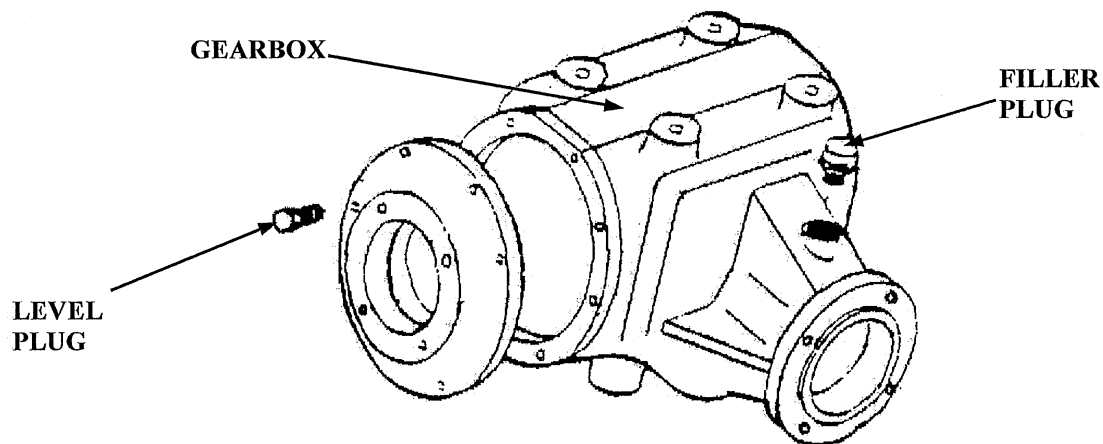

FIG. 3
- Check gearbox correct oil level. To proceed, remove the oil level plug (see fig. 3). If needed to add oil, remove the filler plug located in the top part of the box, and fill in until oil starts running out of the level hole.